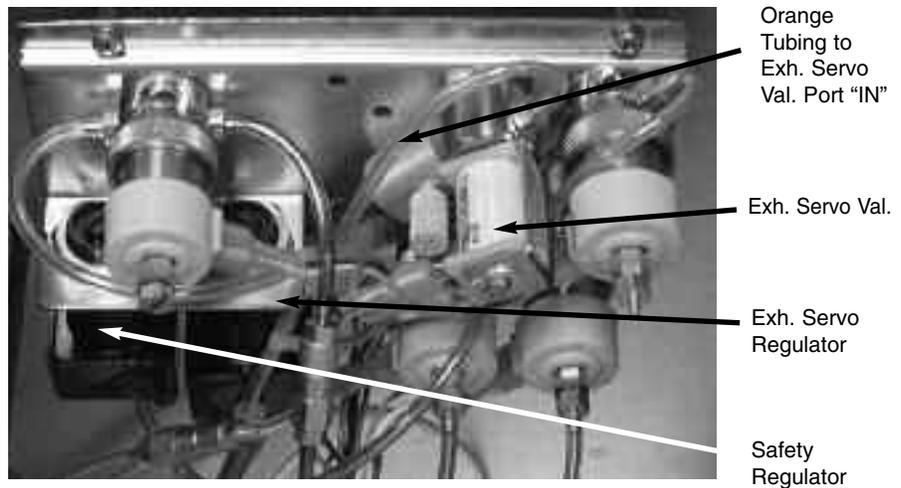

Figure 5-4 Exhalation Servo / Safety Regulators
- 1 Take the **ORANGE** tubing from the Exhalation Servo Valve port “IN” and connect to a high pressure gauge, see Figure 5-4.
- 5 Use a flat head screw driver to adjust the Safety Regulator, see Figure 5-4, to obtain 140 ± 5 cm²HO of "**Machine 1**" pressure displayed on LCD touch screen.